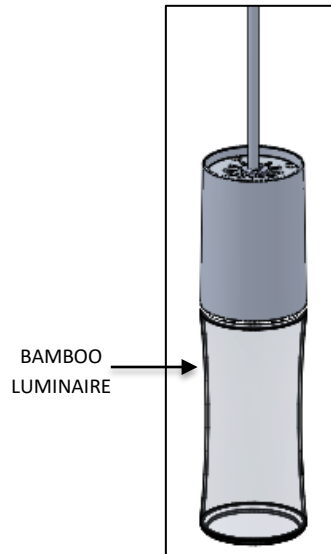

FIG. 2 - BAMBOO LUMINAIRE
1. BAMBOO LUMINAIRE with CORD attached. (Pre-assembled as shown in FIG. 2)